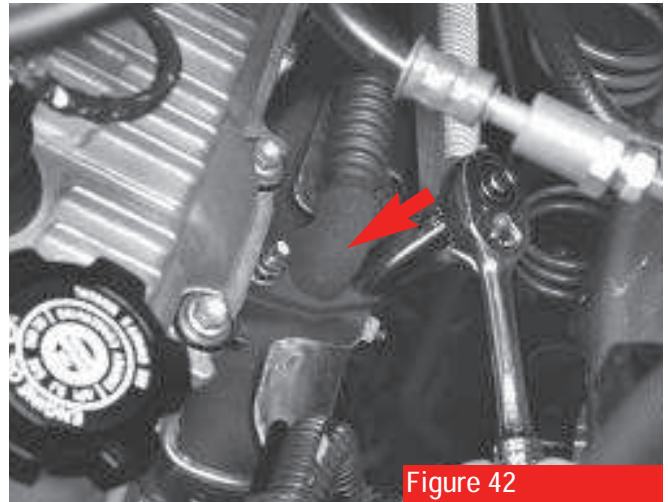

Figure 42
If your Tacoma or T-100 is equipped with an Exhaust Gas Recirculation (EGR) valve (**see arrow, figure 42**), you will need to remove the valve from the stock intake manifold and reattach it to the TRD supercharger manifold. Here's how:
1. Loosen the EGR pipe from the driver's side exhaust manifold. This will ease the removal and installation procedures (**figure 42**).
3. Tighten the nuts holding the EGR pipe to the exhaust manifold (**figure 42**) and torque them to the specs provided in the Toyota Repair Manual.